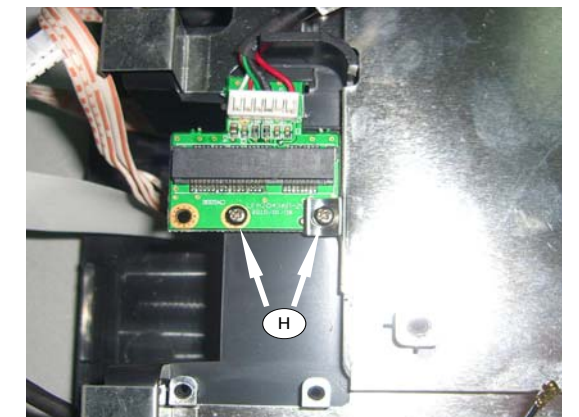

Figure 8
- 2) Loosen 2 screw "H" to detach WIFI Board as shown in figure 8.